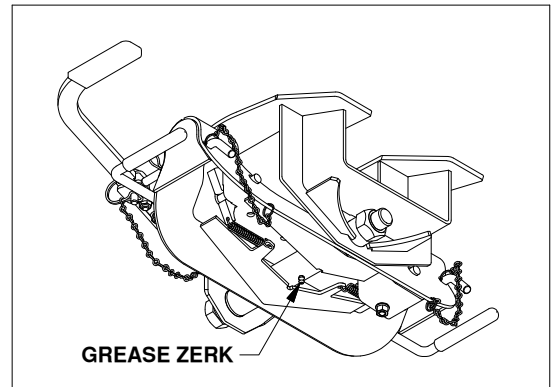

FIGURE G1: View under coupler.
- Grease the saddle through the grease zerk approximately every six months with multi-purpose grease. this allows the coupler to pivot freely, see figure G1.